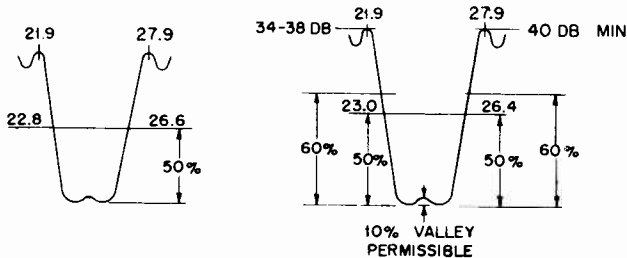

FIGURE 5.
3. Through a 47Kohm decoupling resistor, connect the oscilloscope across the video detector load resistor R-27 (4700) which may be reached from pin 3 of test receptacle (J-4). If a stronger output is required, connect the scope between picture tube cathode (yellow lead) and chassis. The curve seen at this position will be the reverse of the polarity shown in Figures 5 & 6.
7. Tune the 1st IF transformer, T-4, to place a 26.6 mc marker on the high side of the response curve 50% down from maximum response. At the same time, adjust T-6 to provide a flat top or symmetrical response curve. Tuning the two transformers together will make for proper marker placement and "jacking" action of T-6. See Figure 5.
8. Tune the 2nd IF transformer, T-5, to place a 22.8 mc marker on the low side of the response curve 50% down from maximum response. At the same time, adjust T-6 to provide a flat top or symmetrical response curve as in step 6. See Figure 5.
9. Tune trap L-12 for maximum attenuation on the curve at 21.9 mc, as in Figure 5. Make sure the core is toward the outside of the trap winding (toward the top).
10. Tune trap L-11 for maximum attenuation on the curve at 27.9 mc, as in Figure 5. Make sure the core is toward the outside of the trap winding (toward the top).